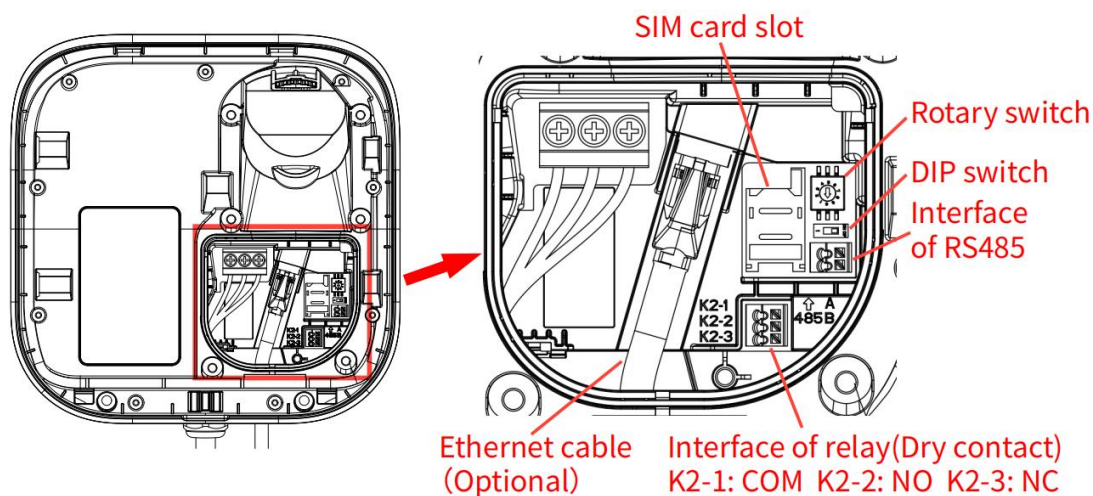
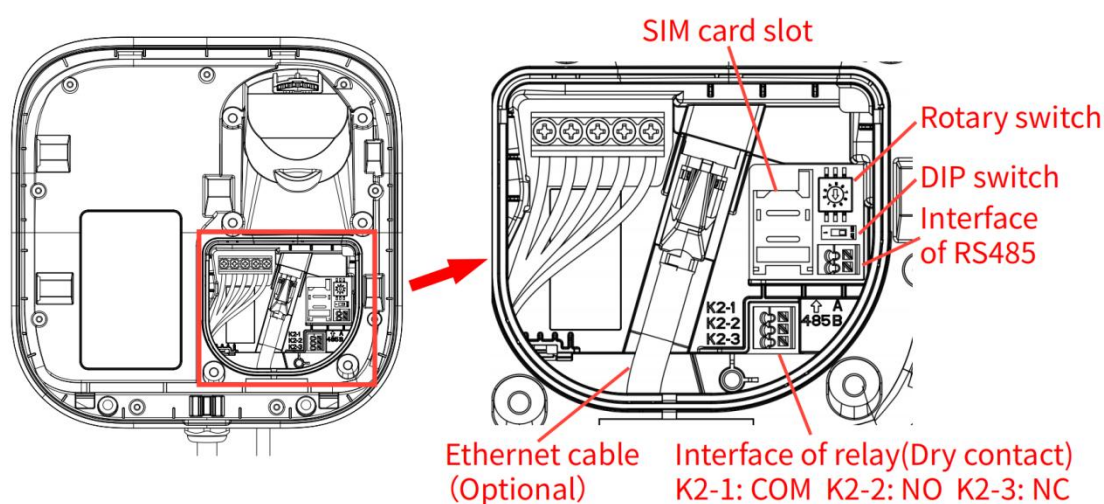

Figure 4-18 7kW
Figure 4-19 11kW
(6) Insert the network cable into the Ethernet cable port (Network cable is only needed when Ethernet communication is required) and install the SIM card, as shown in Figure 4-18 and Figure 4-19.